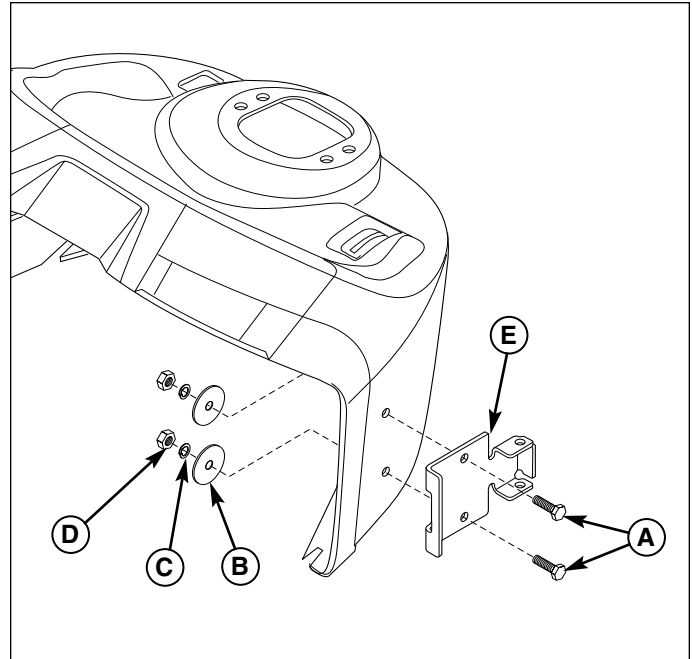

Figure 16. Mount Control Bracket - Current Models
2. Mount the mounting bracket (E, Figure 16) to the dashboard. Secure with two 1/4-20 x 7/8 capscrews (A), lockwashers (C), and large flat washers (B).